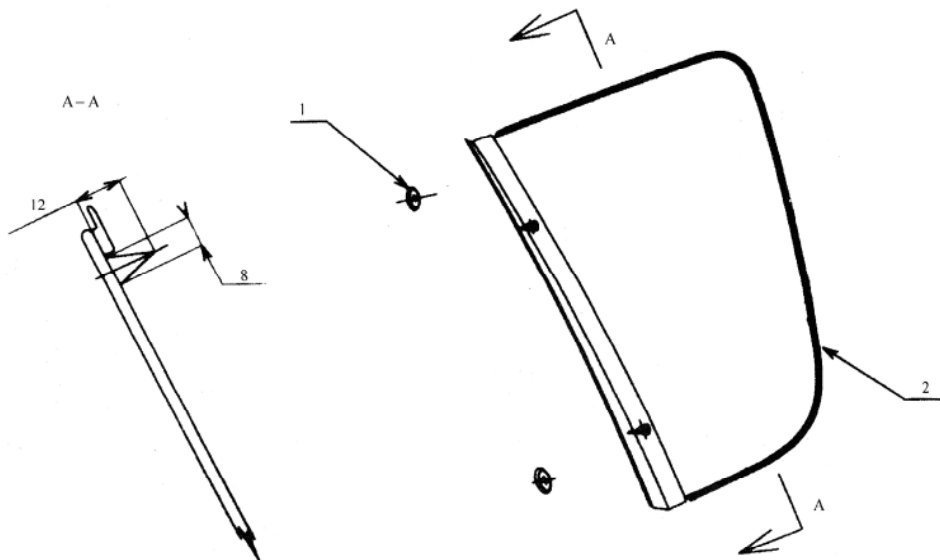

Fig.18-33
(5) Painting adhesive on the primer, you must painting it equably and don't destroy the primer insure. The height of adhesive see Fig.18-33.
(6) Insert the plug into the hole on the side outer panel.
(7) Remove the side glass with vacuum plate, put the clips of weather strip into the plug, cement the glass onto the body. Press the glass emphatically. If the adhesive is cemented on body or glass, use organic impregnate to wipe off.